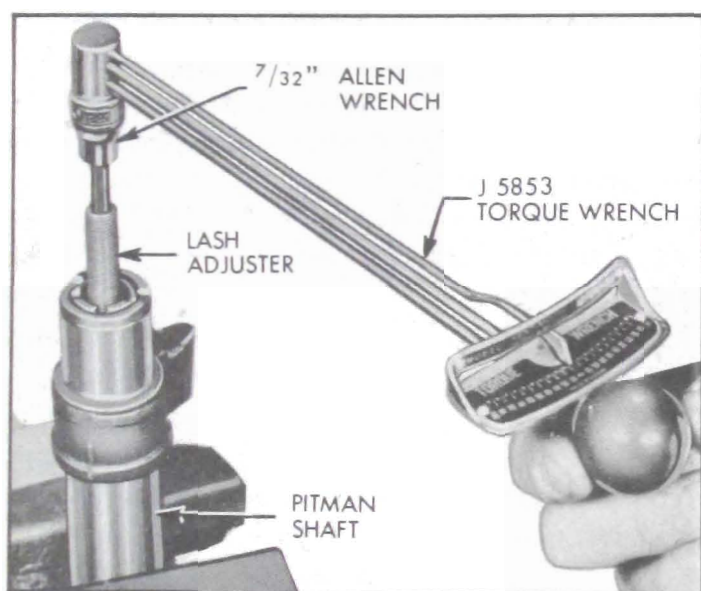

Figure 8-44—Checking Torque on Lash Adjuster
3. Check the torque on the lash adjuster. See Figure 8-44. Torque should be between 1 and 8 inch pounds.